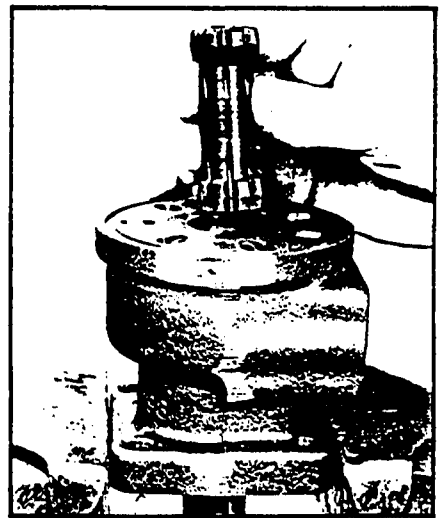

Figure 46
14. Install either end of the drive link (8) through the commutator (9) cavity and engage the lower drive link splines into mesh with the internal splines in the coupling shaft (11). SEE FIGURE 46. A spline valley on both ends of the drive link will now be in line with the commutator drive pin (10) and coupling shaft timing mark.